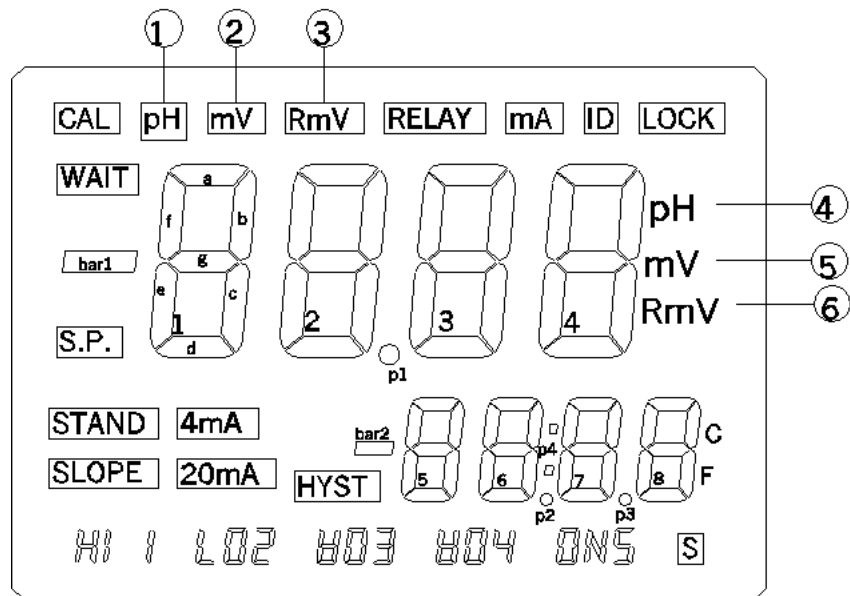

Figure 1.
DATA[0] - DATA[3] = the 4 major(see figure 1) digits.
DATA[4] - DATA[7] = the 4 minor(see figure 1) digits.
Bit 0	= annunciator (6) (RmV) (see figure 1)
Bit 1	= annunciator (4) (pH) (see figure 1)
Bit 2	= major digit's decimal point (p1) (88.88) (see figure 1)
Bit 3	= minor digit's decimal point (p2) (88.88) (see figure 1)
Bit 4	= minor digit's decimal point (p3) (888.8) (see figure 1)
Bit 5	= colon at minor digit (88:88) (see figure 1)
Bit 0	= major digit's sign bar (-88.88) (see figure 1)
Bit 1	= annunciator 3 (RmV) (see figure 1)
Bit 2	= annunciator 1 (pH) (see figure 1)
Bit 1	= annunciator 2 (mV) (see figure 1)
Bit 0	= annunciator 5 (mV) (see figure 1)